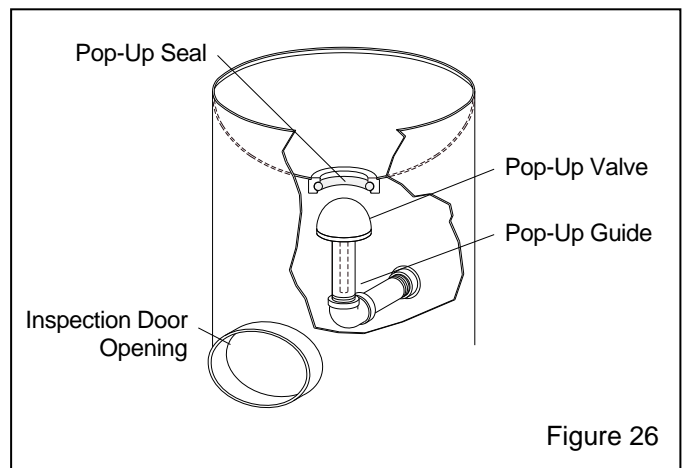

Figure 26
8.7 Replacing the Pop-up Valve – Figure 26